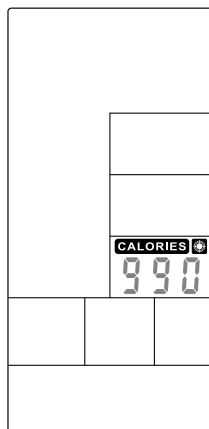

Figure 43
- ⑧ Press any **PROGRAM** key then perform the program accordingly.
- ① In Standby mode, press Target Calories key and **CALORIES** will light up, along with a long sound for 1s.
- ② CALORIES value is flashing, press UP and DOWN to adjust (Figure 43). Press ENTER to confirm meanwhile buzzer beeps 1s and **CALORIES** lasting lighting up